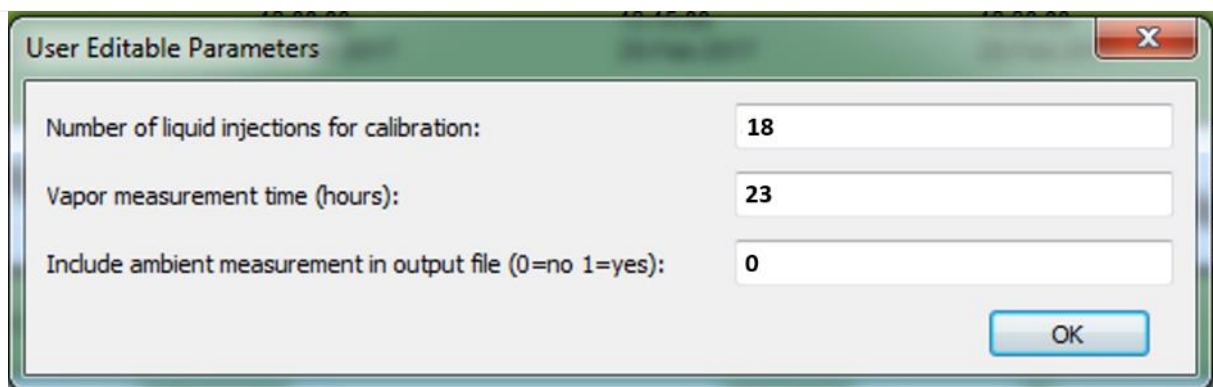

Figure 186. Edit User Editable Parameters.
STEP 5 | Set **User Editable Parameters** to the following parameters and click **OK** when complete (Figure 186).